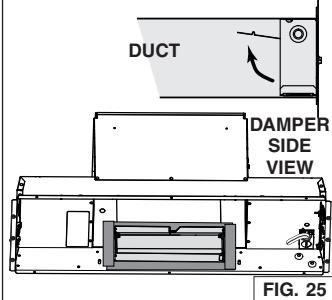

FIG. 25
4. From inside the unit, slide the 3 1/4" x 10" adapter/damper in the horizontal duct, then attach it to the unit using aluminum duct tape all around the joint (FIG. 25). Ensure the damper opens as shown in damper side view.